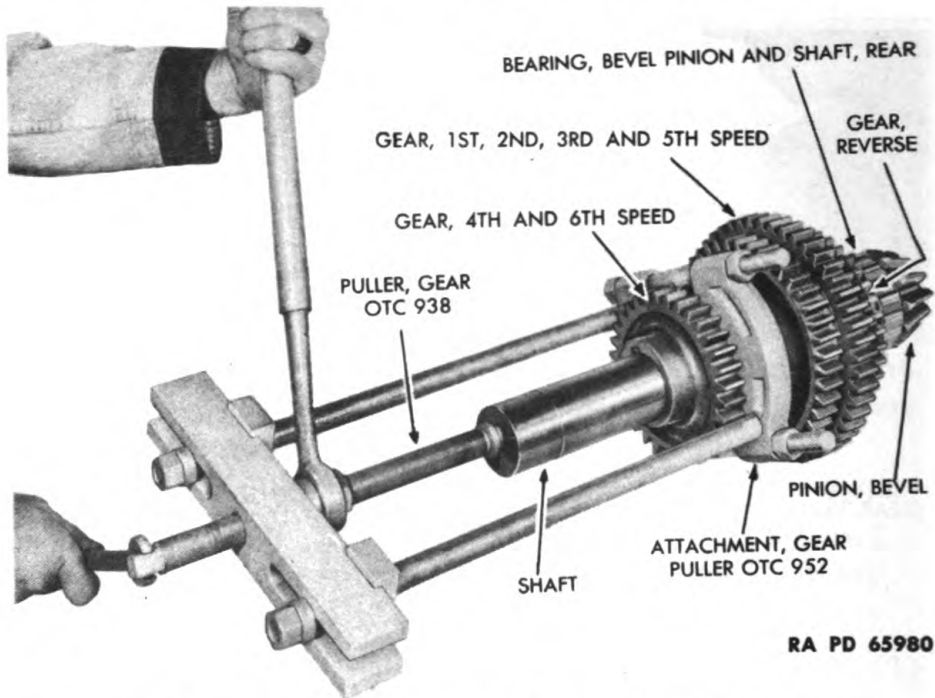

Figure 54 — Removal of Gears from Bevel Pinion and Shaft
(k) Remove Fourth and Sixth Speed Gear (fig. 54).
(1) *Remove First, Second, Third, and Fifth Speed Gear* (fig. 54).
(m) *Remove Reverse Gear* (fig. 54).
(n) *Remove Bevel Pinion Shaft Rear Bearing* (fig. 54).